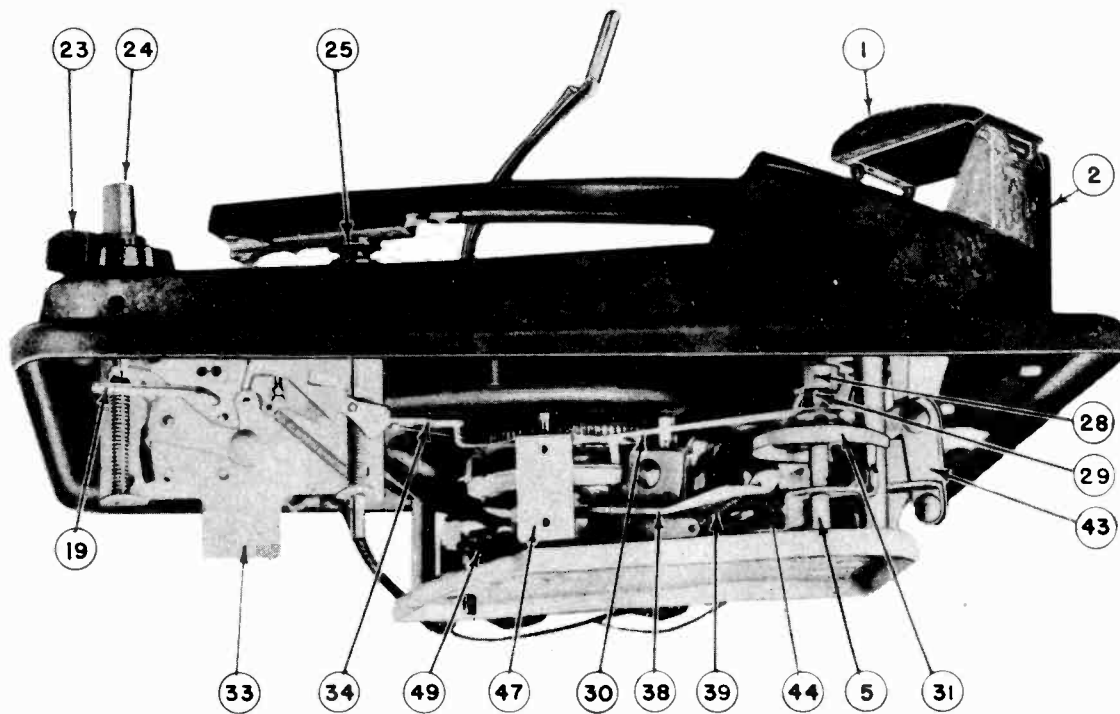

FIG. 6 - PARTS LOCATION -- RIGHT SIDE VIEW
- 2 - Pickup Arm Shaft (Illus. 5 Fig. 6). Apply one drop each to bottom bearing point, bracket hole and hole through Main Base Plate.